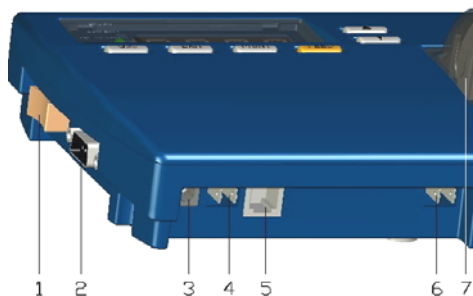

Figure 6: Connections
1. Plug the AC adaptor into the power supply and connect the 12V DC power cord to the power jack (item 3 in Figure 6).
2. Connect the temperature sensor cord to the temperature sensor input jack (item 5 in Figure 6).
3. Switch the power switch to the On position (item 1 in Figure 6). The Power and Sensor LEDs turn green. After a few moments, the temperature should appear in the display area.
- ▲ To send alarms to a remote device, attach a cable to the remote alarm contacts (item 6 in Figure 6). The remote alarm contacts are a pair of 1/4" terminals, 1 Amps, 12V.
- ▲ To export temperature data to a PC, attach an RS-232 cable from the PC to the RS-232 port (item 2 in Figure 6).
- ▲ To connect a remote buzzer silencing device, attach a cable to the buzzer silencer contacts (item 4 in Figure 6). The buzzer silencer contacts are a pair of 1/4" terminals. The silencer device must apply between 5 and 12V DC to the contacts.
1. Connect an RS-232 cable from the PC to the RS-232 port (item 2 in Figure 6).